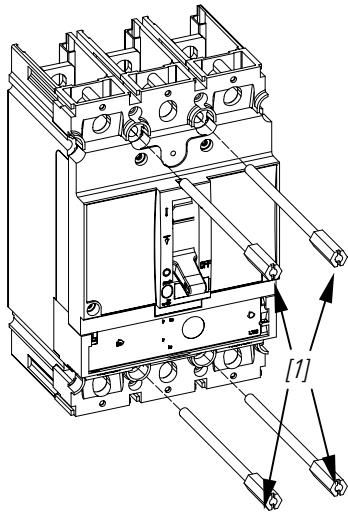

Figure 3. Mounting the breaker in the enclosure.
2. Mount the breaker to the enclosure with the # 10-32 x 3 5/32" screws [1], as illustrated in Figure 3. Tighten the screws to 27 - 32 in-lb. Complete the installation of the circuit breaker according to installation instructions DEH40360.